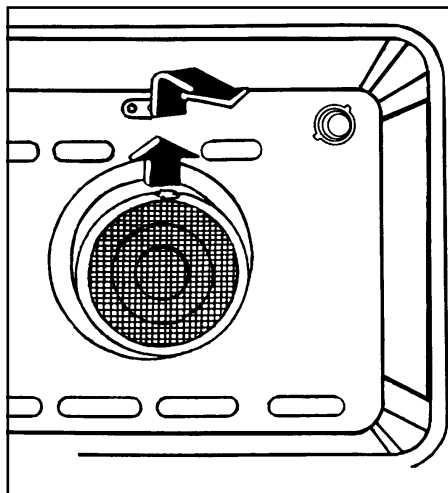

Fig. 10
- Push the protruding tongue on the filter, upward (See Fig. 10)